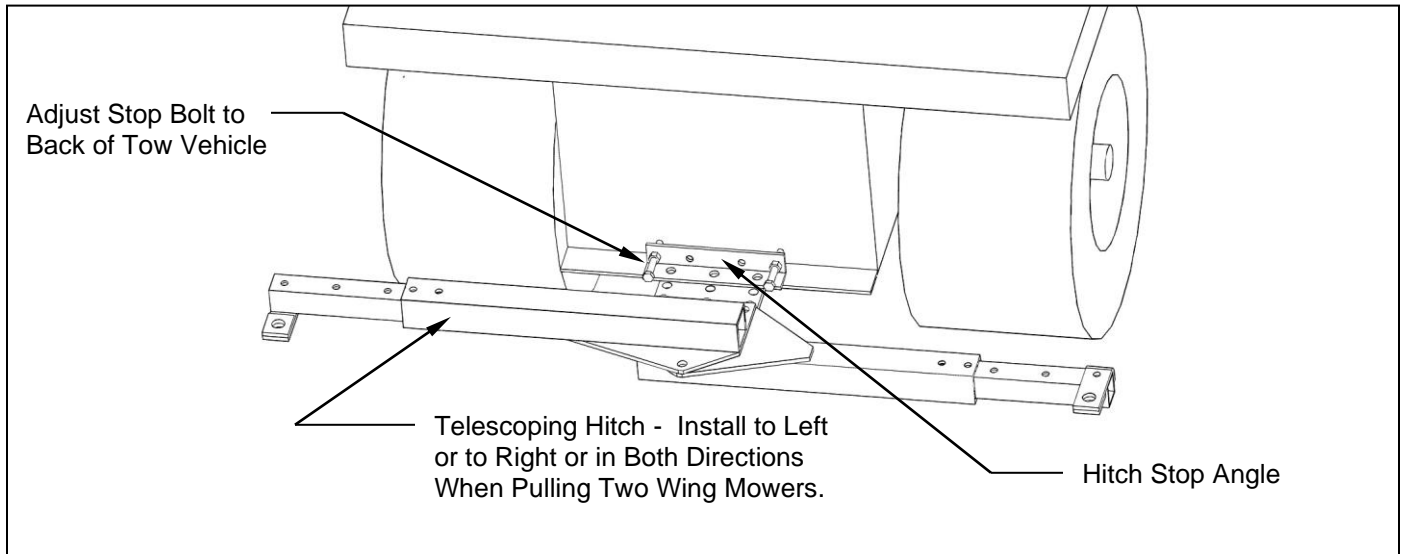

Figure 2: Installation of Tow Vehicle Hitch
3. Attach the tow vehicle hitch to the tow vehicle draw bar top or bottom depending on best support, and secure with the longer 1/2" hex head bolt, flatwasher, nut, and lockwasher provided. **See figure 2.**